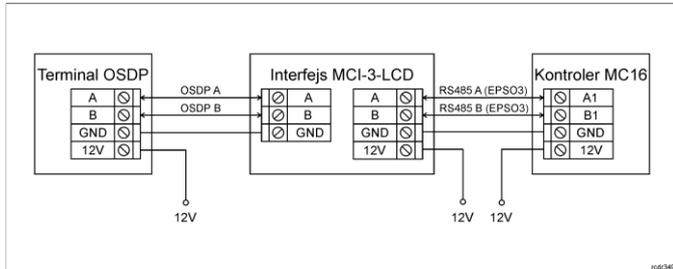
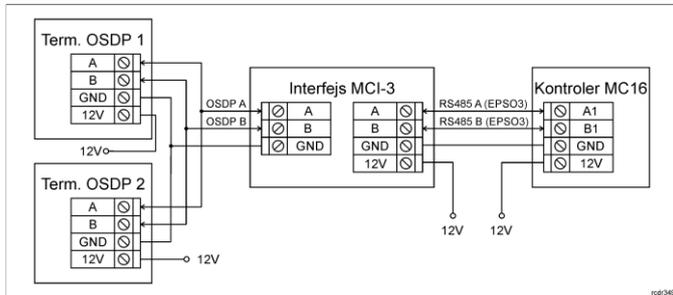

Fig. 4 Connection of MCI-3-LCD interface to OSDP reader and MC16 controller
Fig. 5 Connection of MCI-3 interface to OSDP readers and MC16 controller
1. Disconnect power supply and connect OSDP terminal(s) to MCI-3 interface (fig. 4/5)
- If devices are not supplied from the same power supply then according to fig. 4 and fig.5 their GND terminals must be connected with any wire.